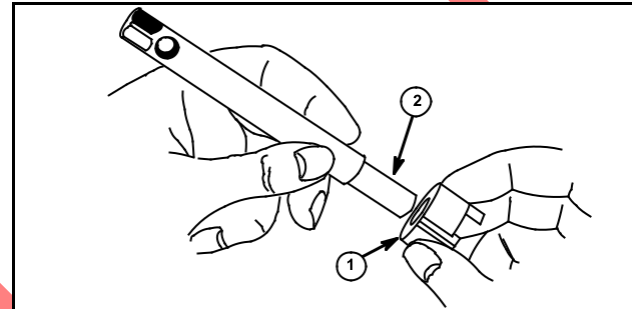

Fig. 18
3. Assemble correct counterbore cutter (1) to cutter shank (2) as shown in Figs. 18, 19.